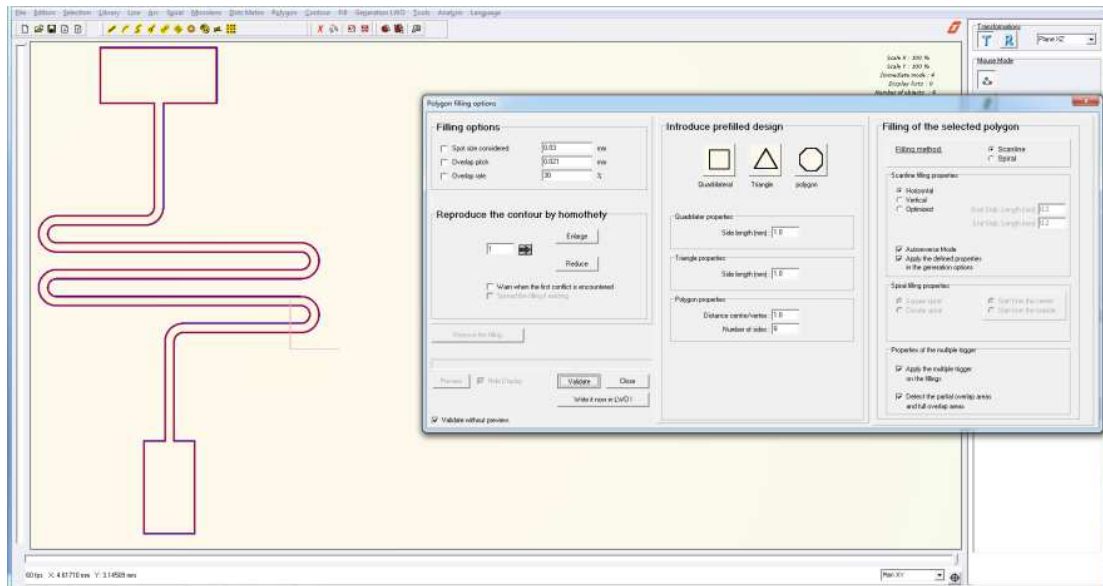

Fig 13 : Polygon filling options
- Check or enter the following settings, and valid by pressing “Enter” (see Fig 13) :